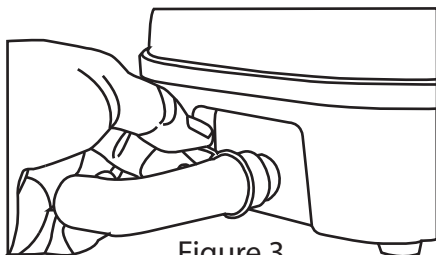

Figure 3
4. Press one end of the Rubber Elbow onto the Outlet of the pump, then Squeeze the Spring-loaded clamp together again and move it so it is clamping the Rubber Elbow down on the Outlet of the pump. Figure 3